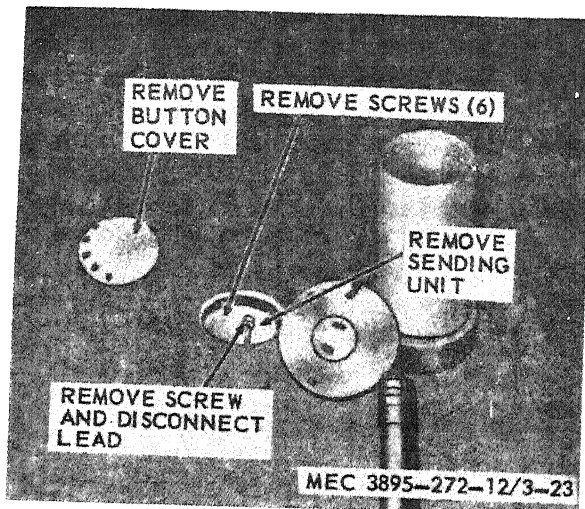

Figure 3-23. Fuel level sending unit, removal and installation.
a. Removal. Remove the fuel level sending unit as instructed on figure 3-23.
- (1) Clean the sending unit with an approved cleaning solvent.
- (2) Inspect the float for evidence of fuel soaking.
- (3) Inspect for poor electrical connections, damaged wiring, and such. Replace a defective sending unit.
c. Installation. Install the fuel level sending unit in reverse of the instructions on figure 3-23.